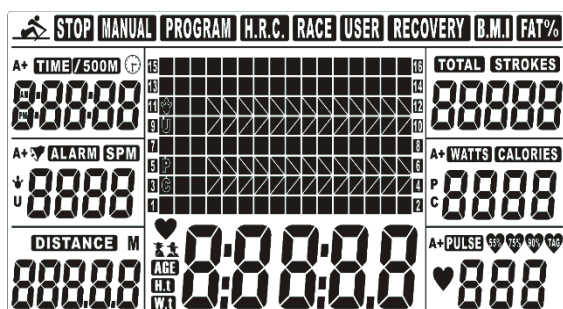

FIG 1
A. Install 4PCS AA batteries→one long beep for 2 seconds (Fig 1)